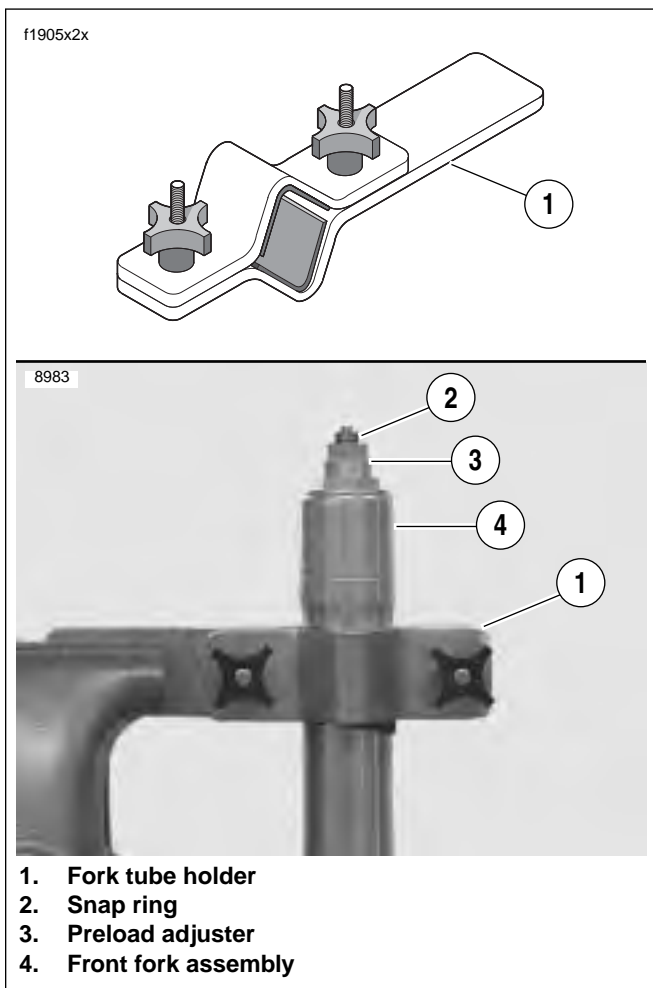

Figure 2-65. Fork Tube Holder (B-41177)
2. See Figure 2-65. Clamp the FORK TUBE HOLDER TOOL (1) (Part No. B-41177) in a vise and install the upper part of the front fork in the holding tool.
3. Remove snap ring (2).